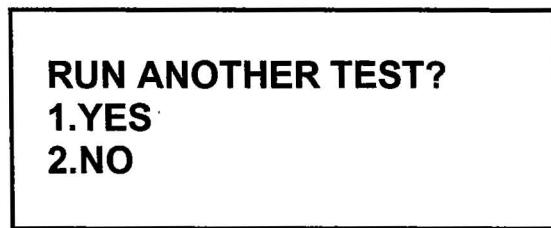

Figure 14-14. Repeat Test Menu
- c. Action Option:** Select key 1 to store current transformer ratio readings in scratch-pad memory, go to "Repeat Test Menu." Select key 2 to go to "Repeat Test Menu" (Figure 14-14).
- b. **Origin:** After selecting key 1 or 2 from “Run Another Test” menu (Figure 14-14).